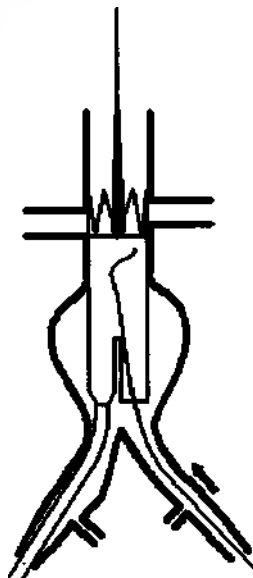

Fig. 9 Introduction of another guidewire
- Insert another guidewire through the other side of the femoral artery into the short branch of placed AAA Stent Graft. (Fig. 9)